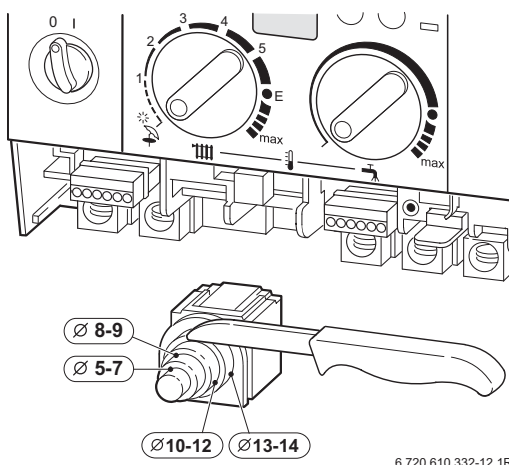

Fig. 27
- ▶ To maintain the splash-proof (IP) design: cut the cable grommet hole size to match the diameter of the cable, see fig. 27.